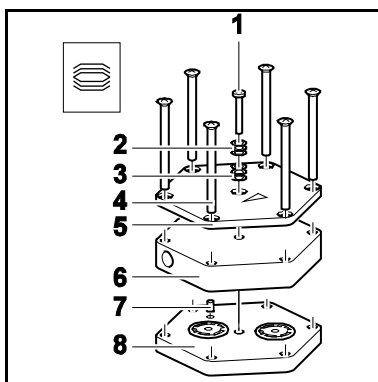

Fig. 9: Refitting pump head
1. For two-headed pumps: On the pneumatic head connection (3), loosen the union nuts (2) by hand. Then slightly loosen the angle-fitting (1) in the pump head (4) by turning it anticlockwise, so that the connecting tube can be pulled out.
2. Mark the position of top plate (Fig. 9/5), head plate (Fig. 9/6), intermediate plate (Fig. 9/8) and adapter relatively to each other by a drawing line (for two-headed pumps: at both pump heads) with a felt-tip pen (1). This helps to avoid incorrect assembly later.
3. Loosen the outer screws (5) on the pump head/pump heads.
2. Place the intermediate plate (8) with valve plates/sealings on the adapter in accordance with the felt-tip pen marking.
3. Place the head plate (6) on the intermediate plate (8) in the position indicated by the guide pin (7).
4. Place the top plate (5) on the head plate (6) in accordance with the felt-tip pen marking.
5. Gently tighten screws (4) in diagonal order.
6. Insert screw(s) (1) with disk springs (2, 3) in the center of the top plate (5). In doing so, make sure that the disk springs are arranged properly (see Fig. 9).
7. Screw in the screw/screws (1) in the centre of the pump top plate (5) until it is flush with the top plate (they are flush with the top plate); then screw one final half turn to tighten.